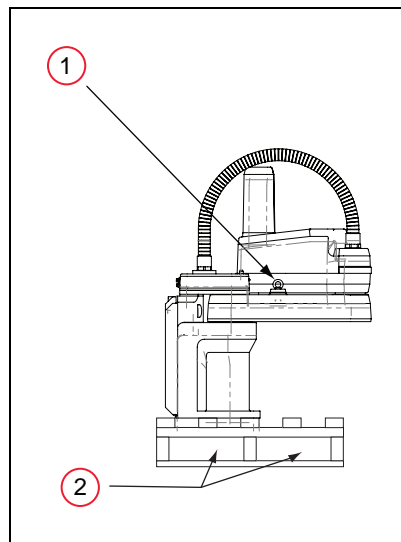

Figure 3-1. eCobra 800 Robot on a Transportation Pallet
Use a forklift or pallet jack to transport the packaged equipment. See Figure 3-1.
3. While the robot is still bolted to the transportation pallet, connect a hydraulic lift to the eyebolt at the top of the inner link. See Figure 3-1.